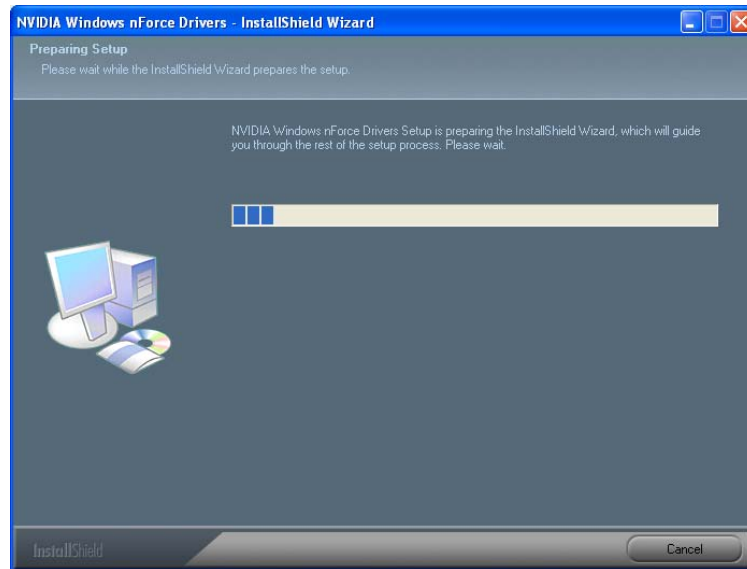

Figure 8-10: Chipset Driver Installation Complete
Step 13: The driver is then installed. See **Figure 8-10**.